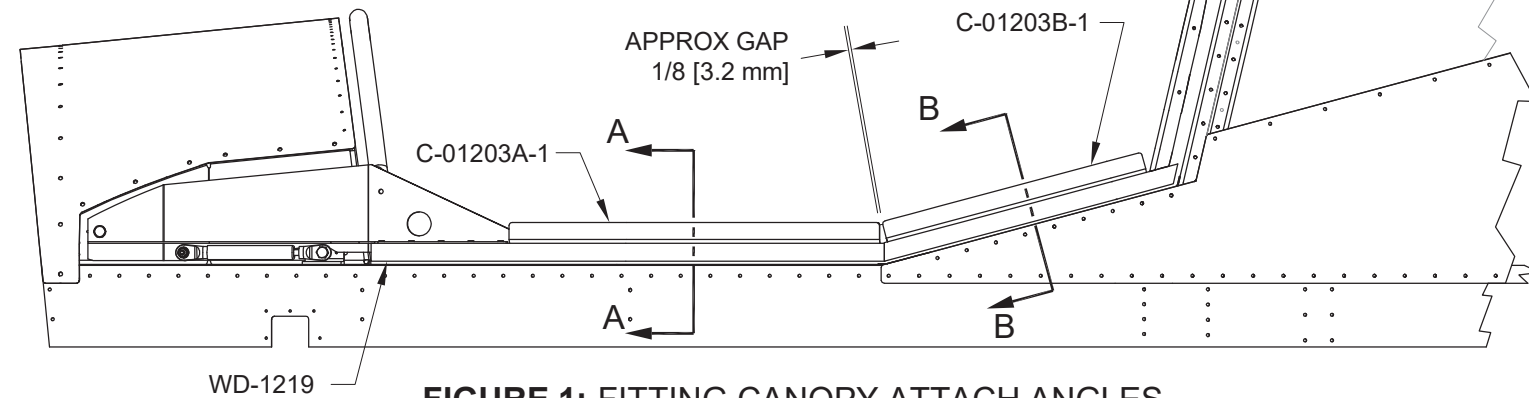

FIGURE 1: FITTING CANOPY ATTACH ANGLES
Step 3: With the inbd edge of the C-01203A-1 held flush to the inside surface of the canopy frame side, see Section A-A and the fore/aft position as shown in Figure 1, match-drill #30 the attach angle to the canopy frame and cleco.